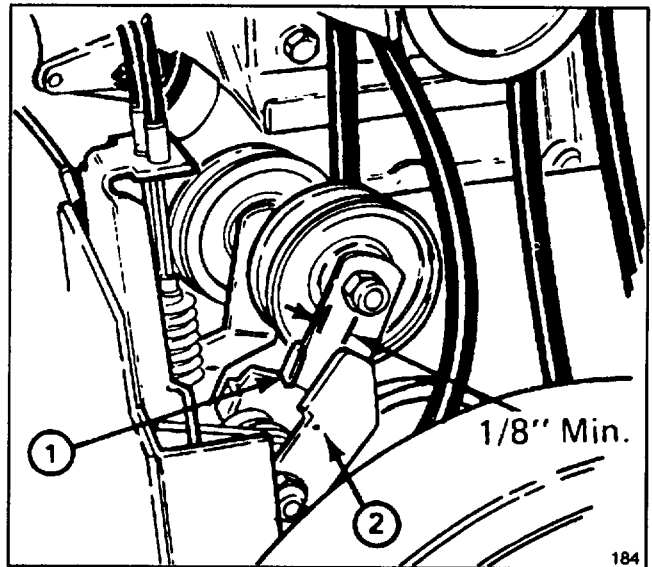

Figure 26
3. Check idler and brake adjustment. There should be a minimum clearance of 1/8" between tab on impeller idler arm and brake arm (Fig. 26). If there is less than 1/8" clearance, belt must be replaced.